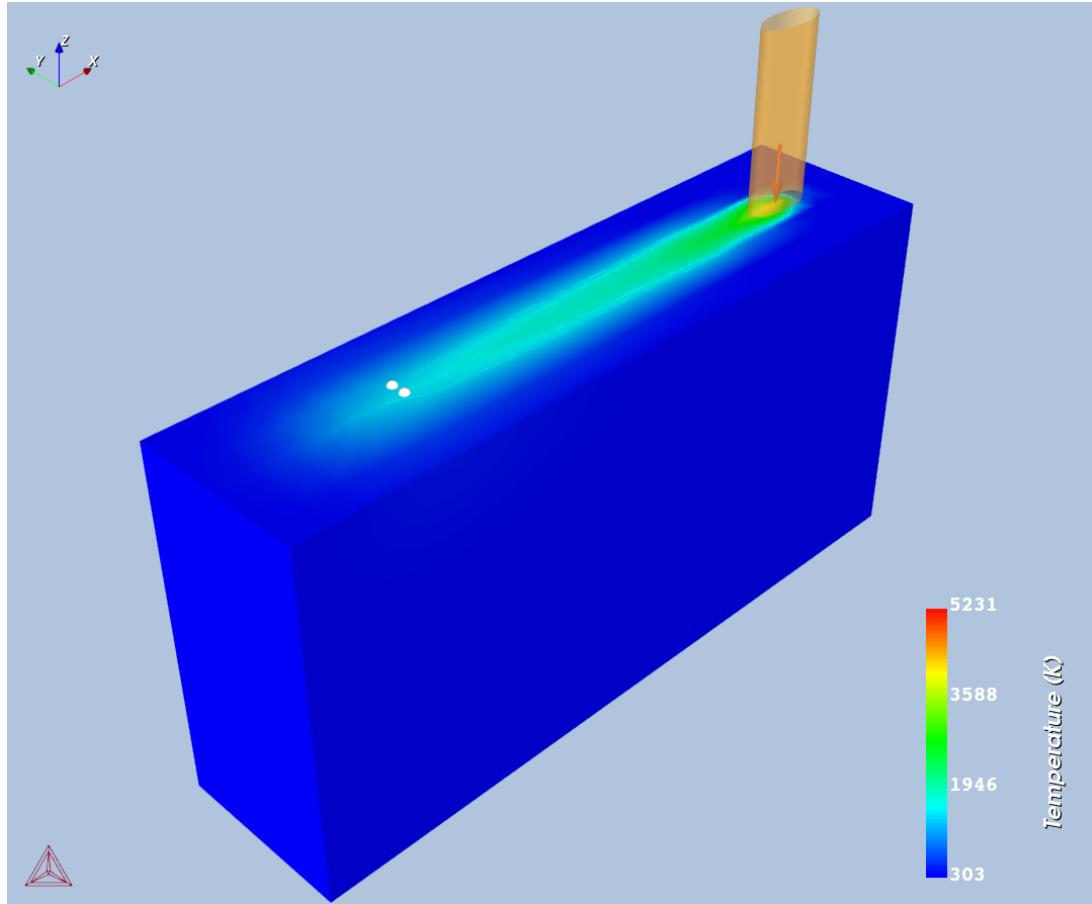

Figure 4: Surface plot of temperature distribution after the single track scan is completed. Probes P1 and P2 can also be seen on the top surface.
- **Geometry:** View the geometry and adjust parameters visually by changing inputs on the Configuration window. Add probes as shown in Figure 4.
Figure 4 shows the surface plot of temperature distribution after the scanning process is completed. It is noted that the melt pool shape reaches a steady-state when the laser beam approaches the end of the scanning track. The melt pool dimensions at the end of scanning track is given in the table.